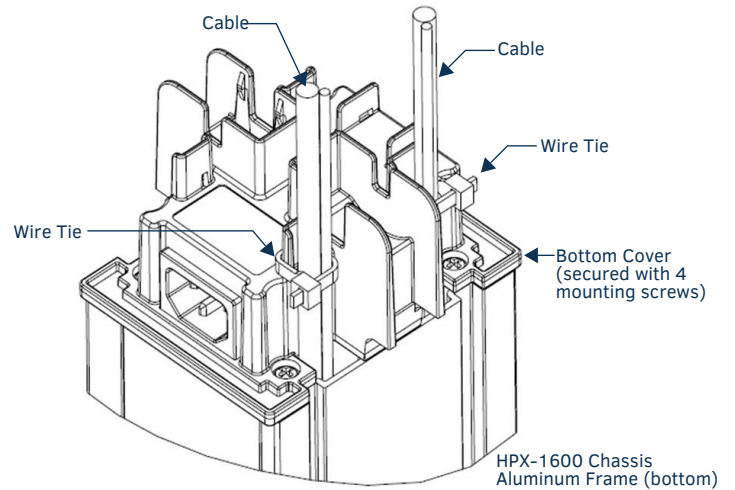

FIG. 8 BOTTOM COVER - INSTALLED WITH CABLES EXITING AND SECURED
2. After the bottom cover is secured using four screws, secure the cables to the corresponding tab near each opening using a small cable tie (FIG. 8).